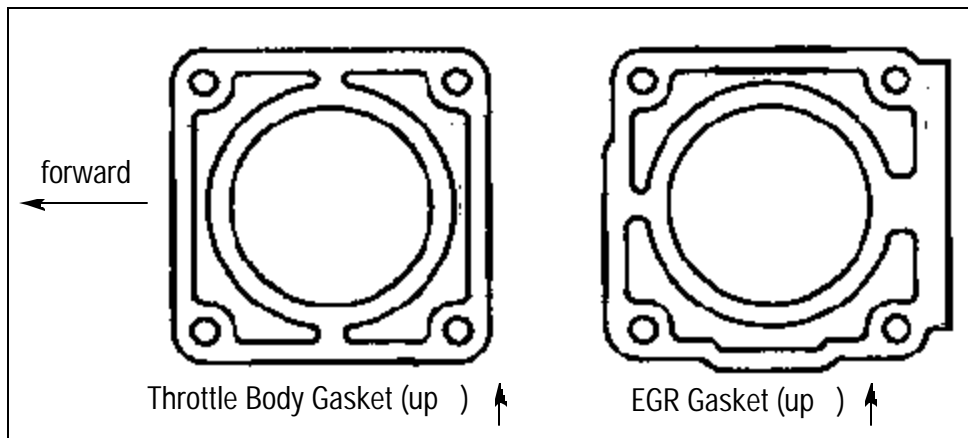

Figure 1 – Throttle Body Gasket and EGR Plate Gasket
5. Remove the four (4) throttle body attaching nuts and carefully remove the throttle body and EGR spacer assembly from the upper intake manifold studs. (See Photo #4).
- c. Throttle body gasket (see Figure 1 for gasket positioning).